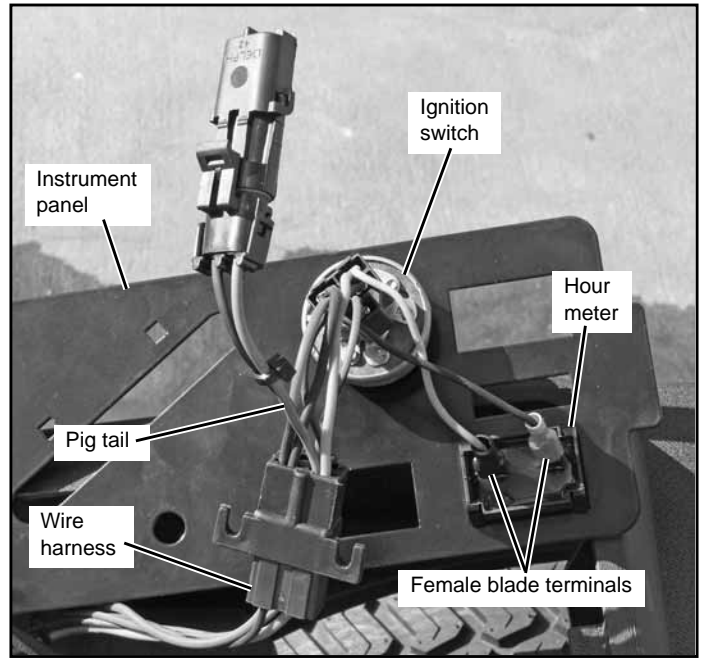

FIG. 2
6. Connect the pigtail harness to the ignition switch and to the mower's wire harness. Fig. 2
7. Connect the female blade terminals on the wire harness to the hour meter (polarity is not critical). Fig. 2